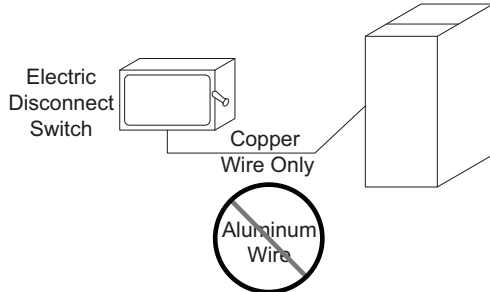
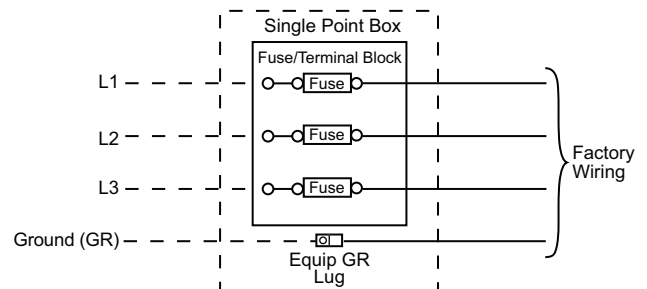
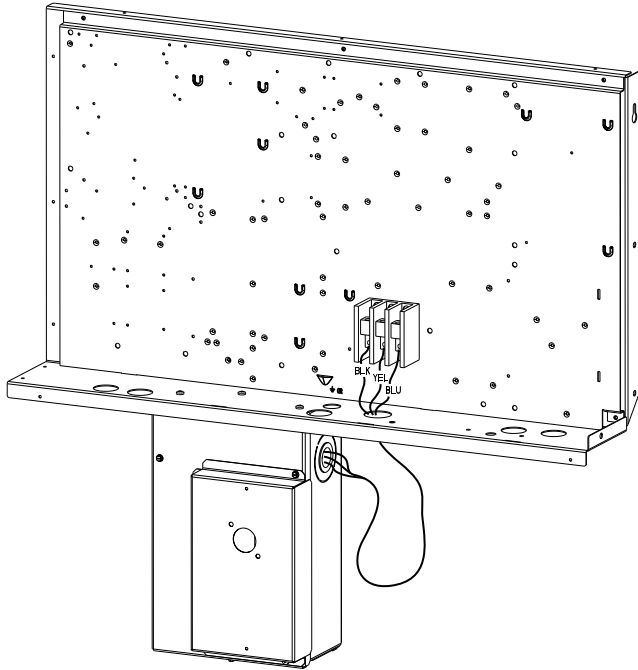

Fig. 21 — Disconnect Switch and Unit
Fig. 22 — Power Wiring Connections
Fig. 23 — Location of Non-Fused Disconnect Enclosure
Field power wires are connected to the unit at line-side pressure lugs at the main terminal block (TB1) or at factory-installed option non-fused disconnect switch. See Fig. 21. Max wire size is no. 2 AWG (copper only). See Fig. 22.
Do not connect aluminum wire between disconnect switch and unit. Use only copper wire. See Fig. 21.
Refer to Table 3 for maximum wire size at connection lugs. Use copper wire only. See Fig. 21 and 22.
Size wire based on MCA (Minimum Circuit Amps) on the unit informative plate. See Fig. 22 and the unit label diagram for power wiring connections to the unit power terminal blocks and equipment ground. Maximum wire size is 2/0 AWG per pole.
The factory-installed option non-fused disconnect (NFD) switch (see Fig. 23) is located in a weatherproof enclosure located under the main control box. The manual switch handle is shipped in the disconnect enclosure. Assemble the shaft and handle to the switch at this point. Discard the factory test leads (see Fig. 22). The factory disconnect is either an 80A or 100A depending on the unit voltage, indoor motor and options.
2. Install power lines to terminal connections as shown in Fig. 22.